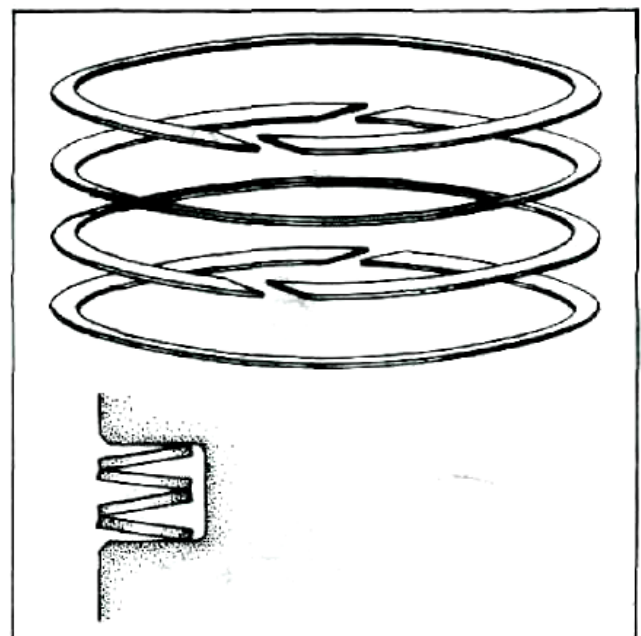

Fig. B.8 — Laminated Ring Arrangement on L4 Piston.
- (f) When the four laminations are fitted to the piston check that they are fitted correctly. If fitted correctly there will appear a circumferential gap between the bottom two laminations and the top two laminations as illustrated in Fig. B.8.